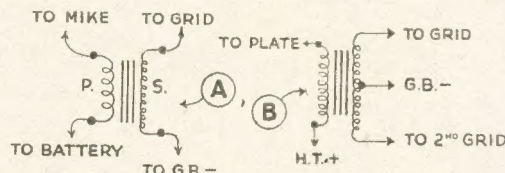

Fig. 4—Microphone and push-pull transformers
Carbon microphones must have a transformer permitting a constant current to flow, and such a component will have a low-resistance primary, as shown in Fig. 4 at (A). (Actually, a